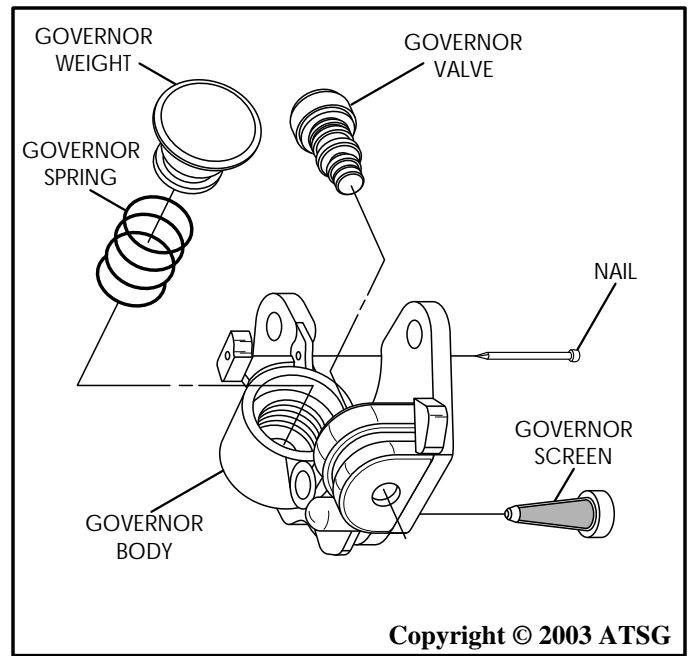

Figure 113
2. Disassemble the governor valves, springs and screen from governor body, using Figure 113 as a guide.
5. Install valves, weights and springs in governor body exactly as shown in Figure 113.
6. Install the "Nail" to retain the governor weight and spring in the bore (See Figure 113).
7. Install **new** governor screen in governor body, as shown in Figure 113.